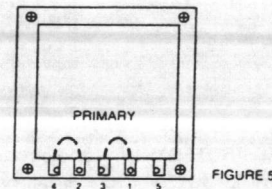

FIGURE 5
*Figure 5* is an example of proper jumpering of the primary for 100/120 VAC operation.